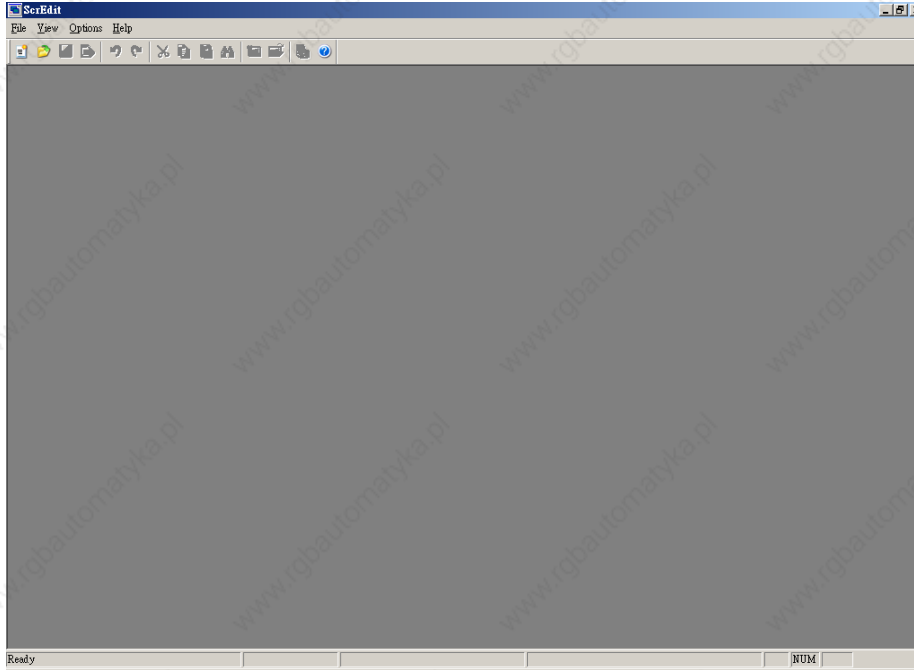

Fig. 2.2.3 Screen without editing file
2. If you didn't check “auto open last file automatically” in environment setting or you didn't save last file, it will show basic function as Fig. 2.2.3.
3. There are only File (F), View(V), Option(O) and Help(H) on the toolbar when executing ScrEdit without editing new file.